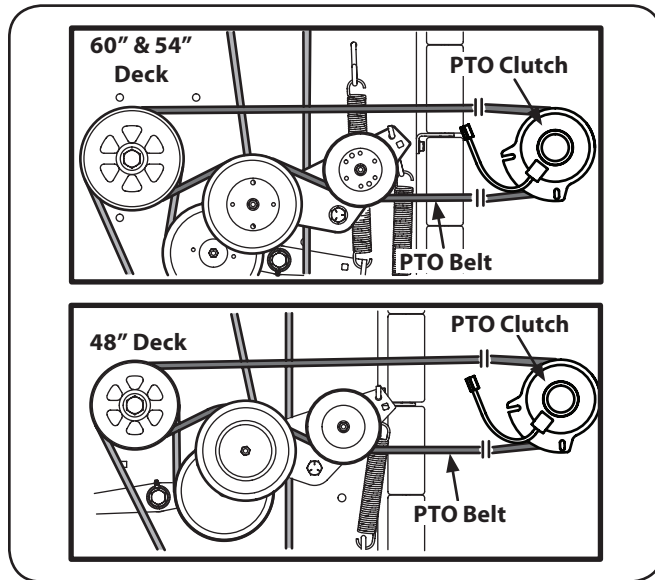

Figure 7-5
1. Remove the PTO belt from the deck as instructed in the Deck Removal section then remove it from around the PTO clutch. See Fig. 7-5.